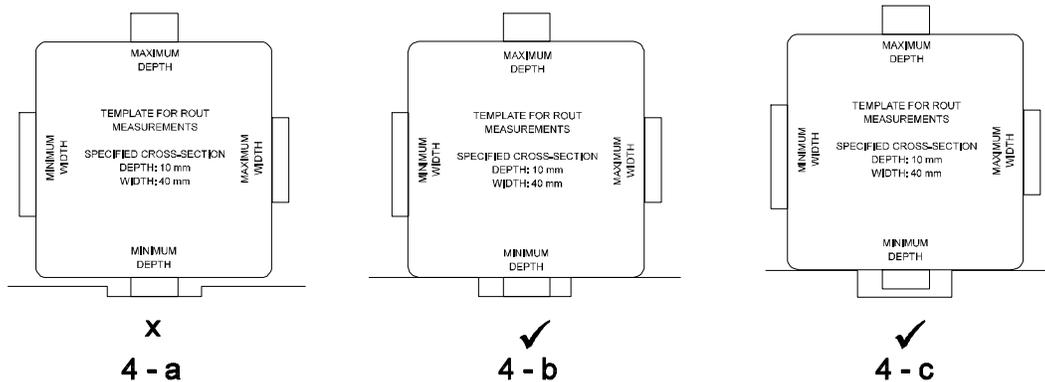

FIGURE 4
- If the sides of the template are above the edges of the rout, as shown in Figure 4-A, the rout depth is **below** the specified minimum depth. If the sides of the template are flush with the edges of the rout and the base of the template is touching the base of the rout (Figure 4-B) or is above the base of the rout (Figure 4-C), the rout depth meets the minimum specified depth.